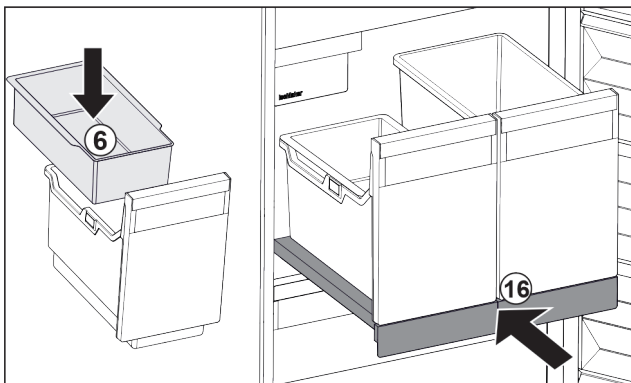

Fig. 96
- ▶ Insert hang-on tray Fig. 96 (6) for ice cubes.
- ▶ Slide in the pull-out board with (IceTower) container. Fig. 96 (16)